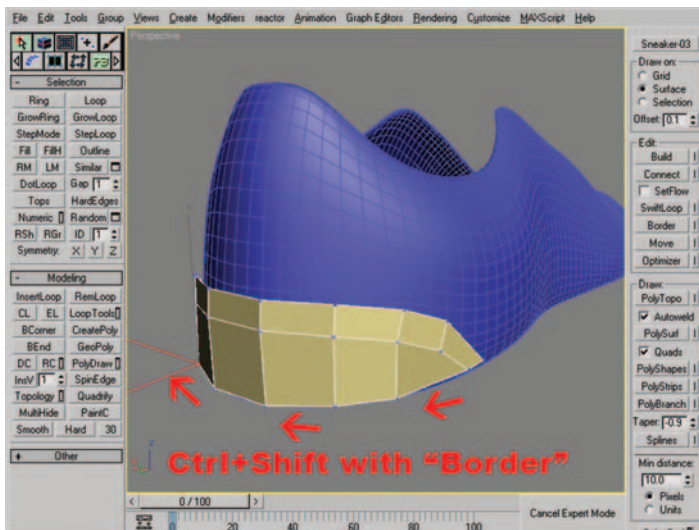

Figure 12.34 New polygons created with Border and the key combination Ctrl+Shift.
- With Border still active, hold down the Ctrl+Shift keys to fill in the gaps between the polygons created in the last step. Work from side to side, creating Quad polygons to fill the voids. Figure 12.34 shows the resulting mesh.